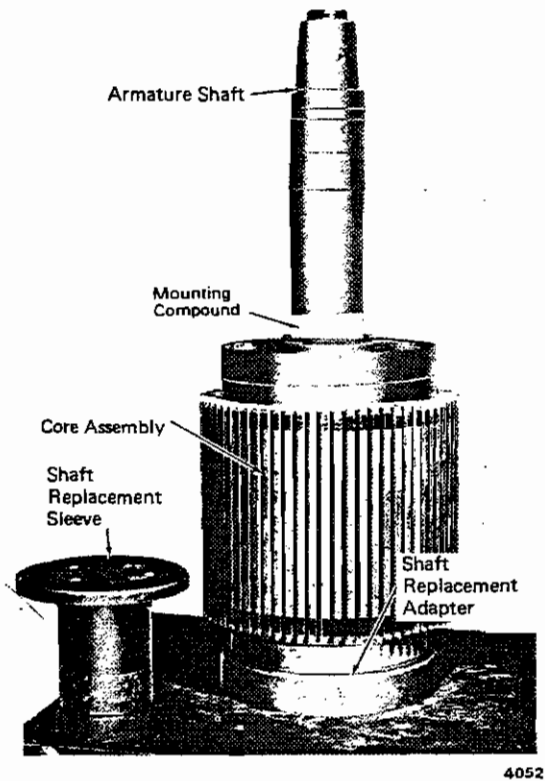
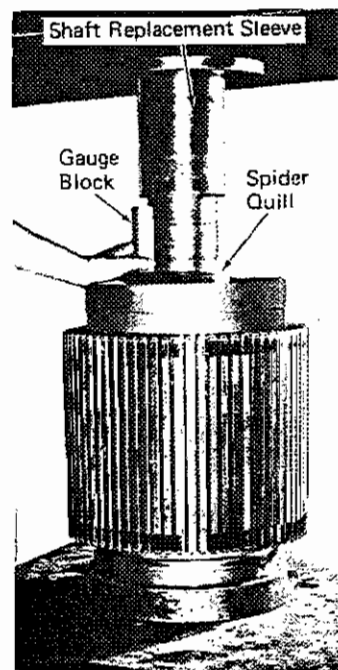

Fig. 15 - Armature Shaft in Core Assembly
Fig. 16 - Pressing Shaft
6. Apply lubricant to the shaft, Fig. 15. Ensure shaft bore is properly lined up with base adapter. Guide armature shaft, commutator end down, into armature core assembly. Place shaft replacement sleeve on pinion end of shaft, Fig. 16. Position assembly under press.